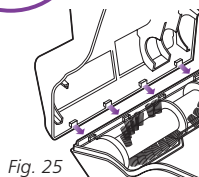

Fig. 25
- 3 To reassemble, insert the tabs on the front edge of the bottom cover into the matching holes in the top half and tilt it back down until it clicks into place. (Fig. 25)